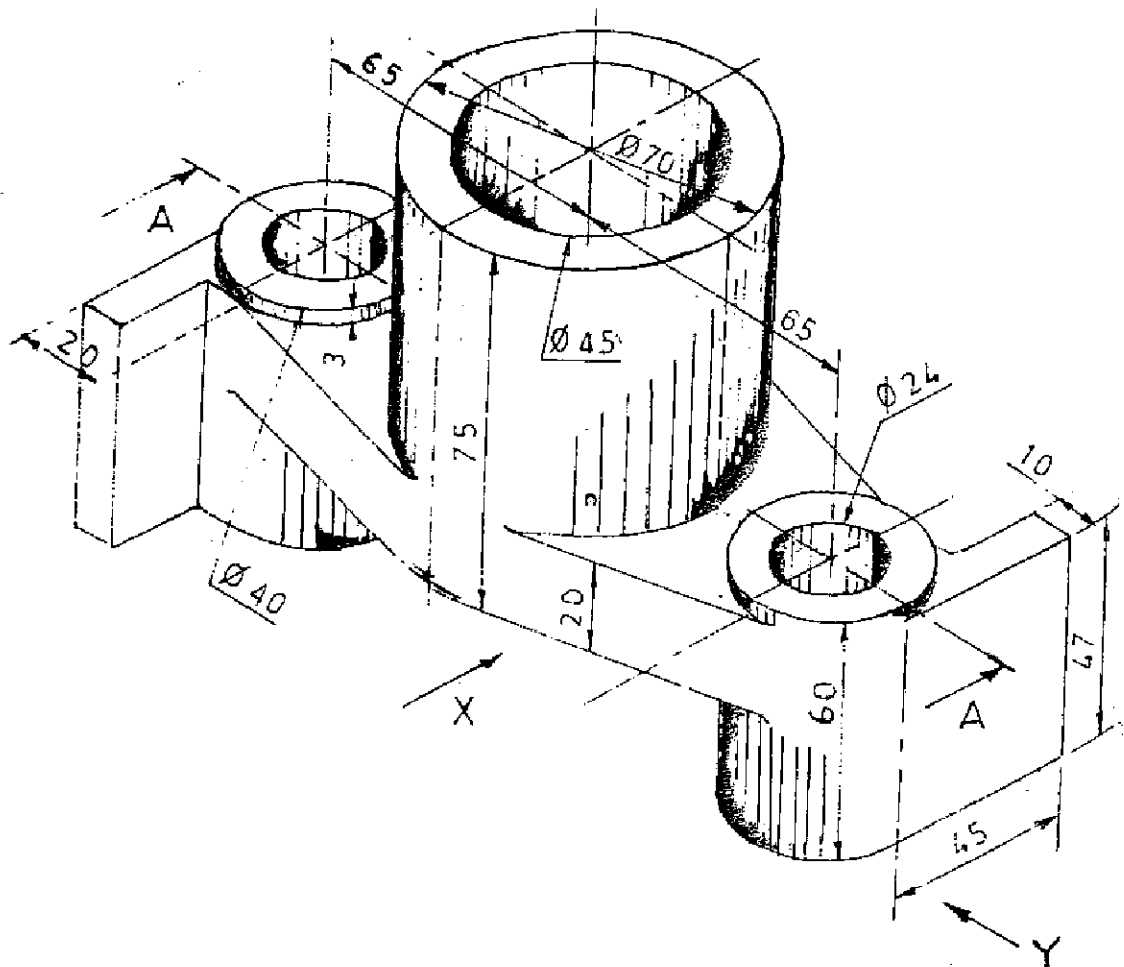

Figure 1
3. Figure 1 shows a pictorial view of a 'Shaft guide'. Draw the following views using first angle method of projection :